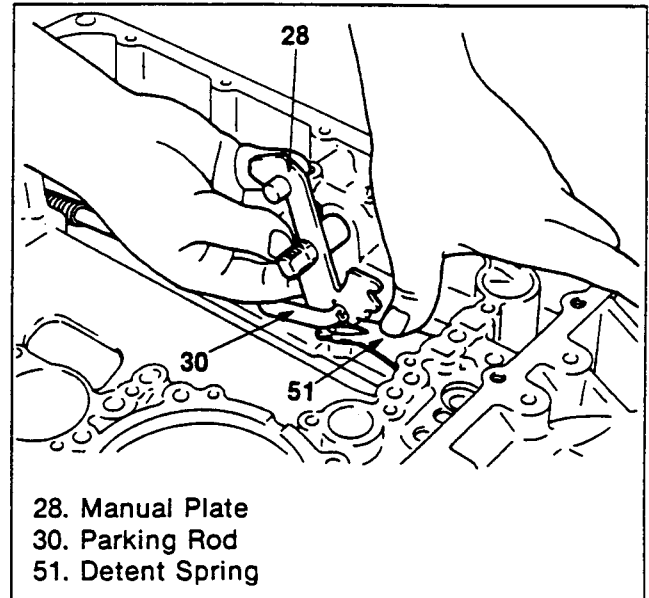

Figure 47. Manual Plate Removal (2)
2. While depressing the detent spring, remove the manual plate and the parking rod as a unit (figure 47).